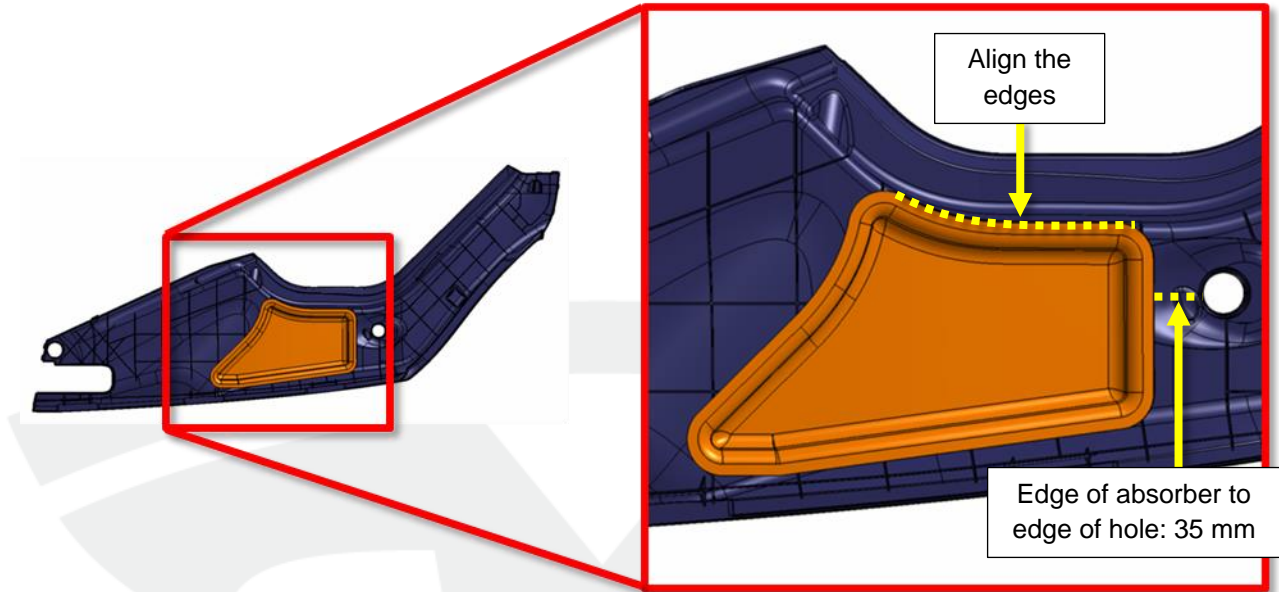

Figure 4 (acoustic absorber highlighted)
4. Remove the backing from the new LH side apron acoustic absorber and press it onto the apron. Use the guidelines in Figure 4 to accurately align the absorber.